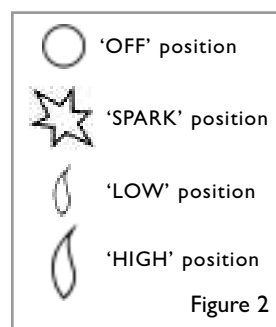

Figure 2
- The control knob is located on the lower right hand side of the outer case. It is of a spherical design and is marked as shown in figure 2.